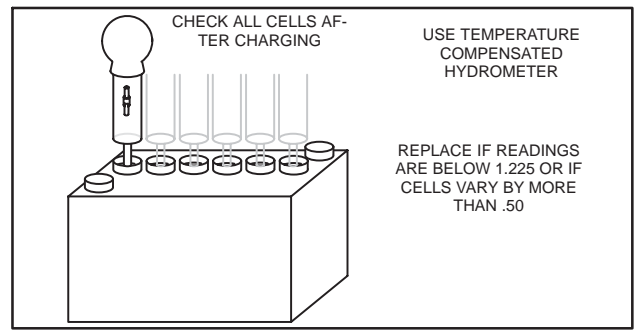

Fig. 28 – Checking 12 V Battery Cells (Lead Acid, Wet Cell, With Fill Caps)
3. With battery fully charged, check specific gravity readings (unless maintenance free type) of each cell with a Battery Hydrometer and record readings (Fig. 28). All readings should be above 1.250 (compensating for temperature). If specific gravity readings varied .50 or if ALL cells read less than 1.225, replace battery.